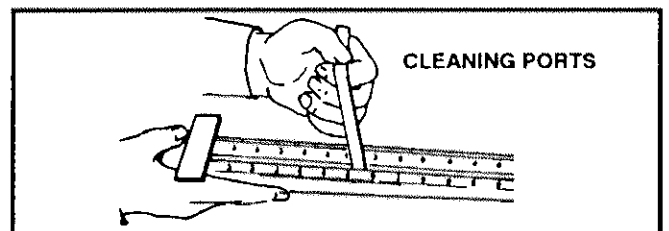

FIGURE 27
- 14—Clean burner ports by inserting a cleaning tool (made from a piece of sheet metal cut to fit the burner ports) and work in and out of each port. See figure 27.